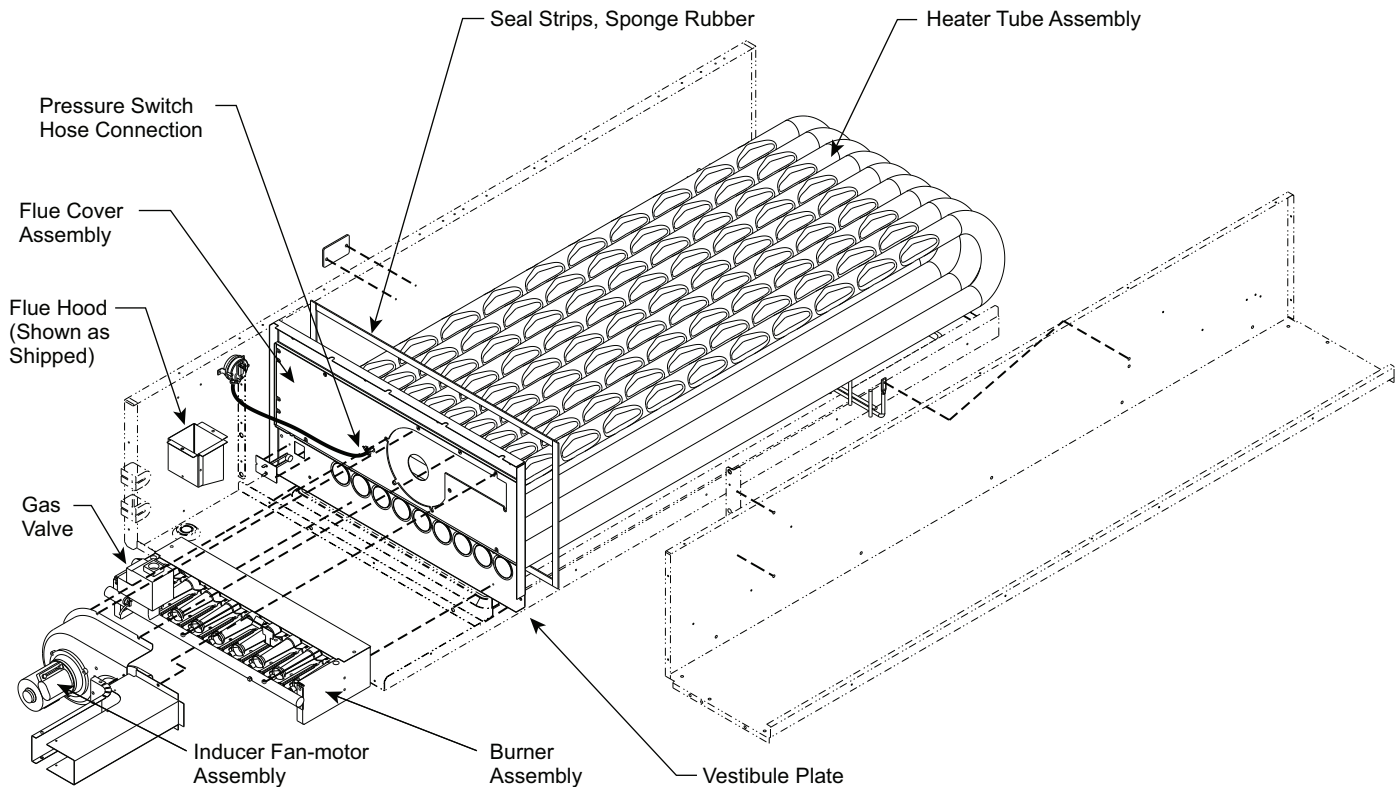

Fig. 49 — Heat Exchanger Assembly
1. Remove the combustion blower wheel and motor assembly according to directions in Combustion-Air Blower section. See Fig. 49.
2. Remove the seven screws attaching the induced-draft motor housing to the vestibule plate. (See Fig. 49.)
See Fig. 49, 51, 52, 53 and 54.
9. Remove the two screws attaching the burner rack to the vestibule plate (see Fig. 49).
10. Remove the pressure switch hose from the connection on the flue cover assembly (see Fig. 49).